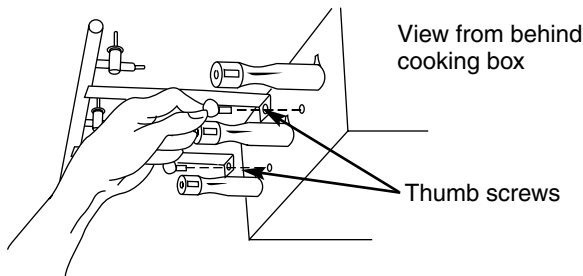

Figure 12
- f) Remove the manifold bracket and unscrew the two thumb screws that hold the manifold to the cooking box. Pull the manifold and valve assembly out of the burners and carefully set it down. Figure 12.